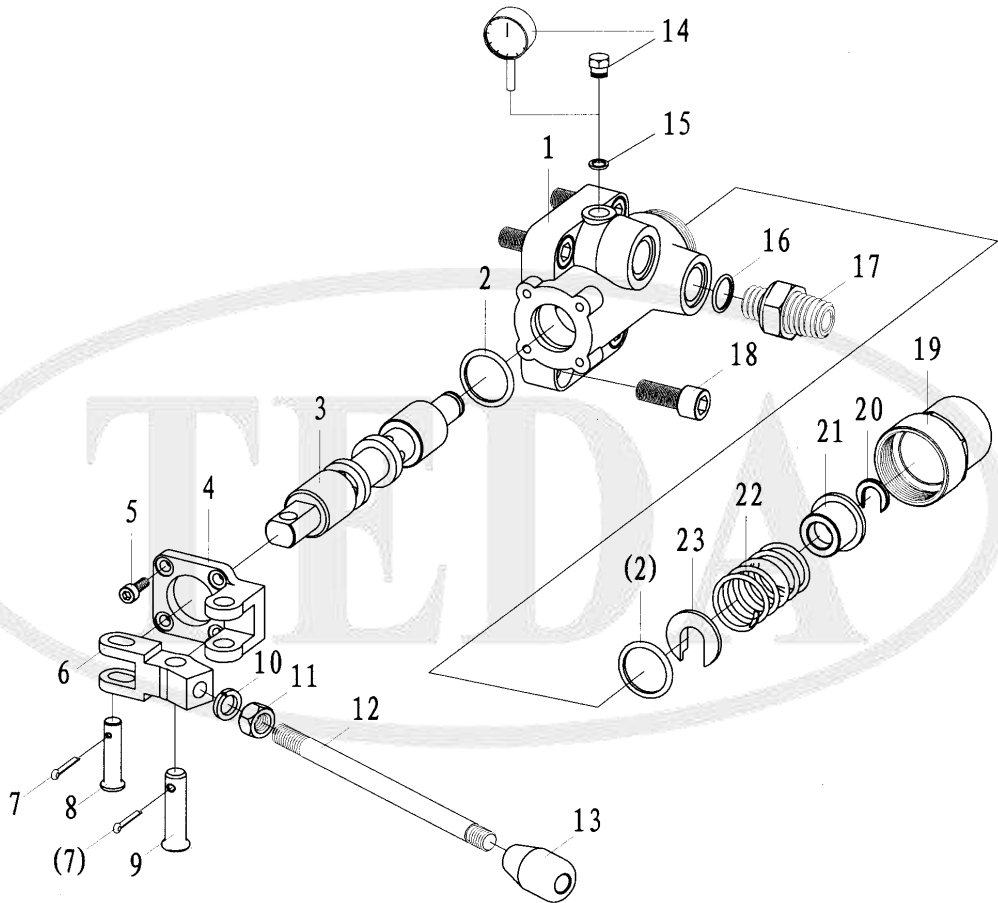

Fig.9 Hand Control Valve
9.7 Hand Control Valve and parts list (Fig.9,Table 7)